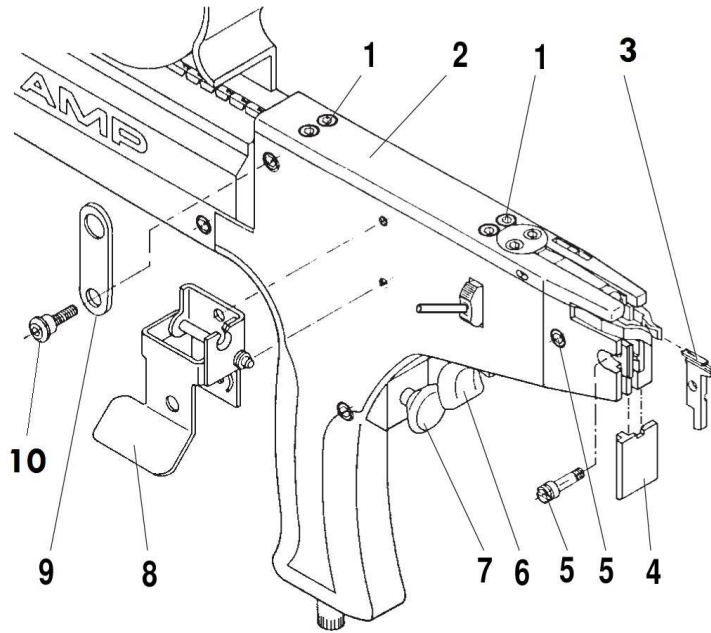
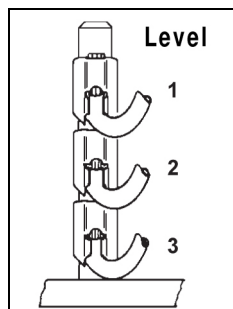

Fig. 7: Tool Preparation
Fig. 8: Clip Level
2. Place index finger on wire funnel lever (directly above trigger, Fig. 7) and operate wire funnel lever several times. Note that as lever is pulled, wire funnel on top of tool (Fig. 7) moves back and, as lever is released, wire funnel moves forward. In operation, this permits wire to be properly positioned in tool and clamped in place for termination cycle.
3. With clips loaded (Fig. 8) and mandrel installed Fig. 7), connect tool to air supply and regard all applications in section 3 „General safety instructions“.
3. Remove mandrel holding screw (ref. Fig. 7) and loosen screw (10).
4. Remove tooling foot (4).
2. Remove mandrel holding shoulder screw (ref. Fig. 7) and screw (10).
3. Remove tooling foot (4).